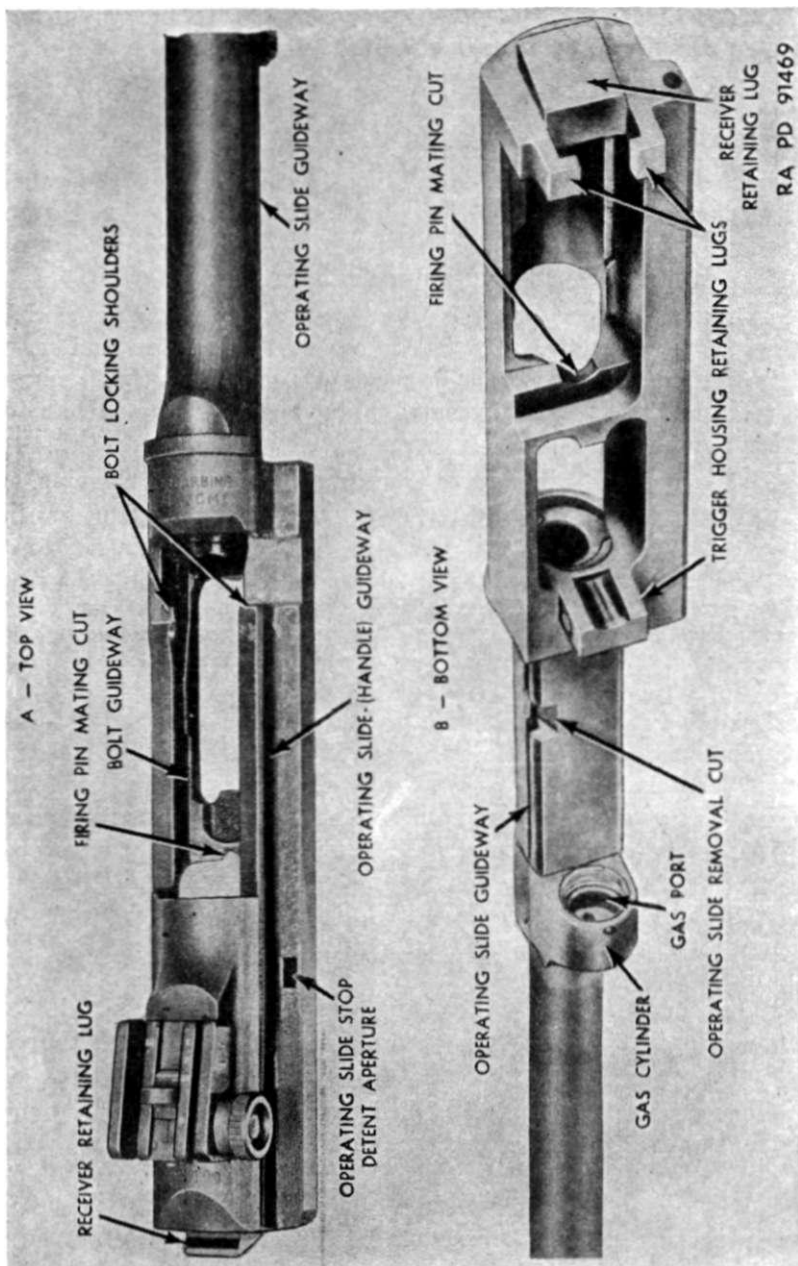

Figure 50. Barrel and receiver group.
d. RECEIVER. (1) Inspect receiver for looseness with barrel, deformation, rust, and burs. If receiver is disassembled from barrel, inspect for worn or crossed threads in barrel aperture.
(2) Inspect bolt guideway and locking shoulders for wear, burs, cracks, and foreign matter. Inspect receiver retaining lug on rear end (fig. 50) for wear, burs, and looseness with recoil plate when assembled to stock.
(3) Inspect operating slide guideway on right side for wear, burs, and foreign matter, and operating slide removal cut for wear and burs. Inspect operating slide stop detent aperture for wear, burs, and foreign matter. Forward surface of aperture should be at a sharp right angle to receiver, and with a clean edge to facilitate retention of stop, and